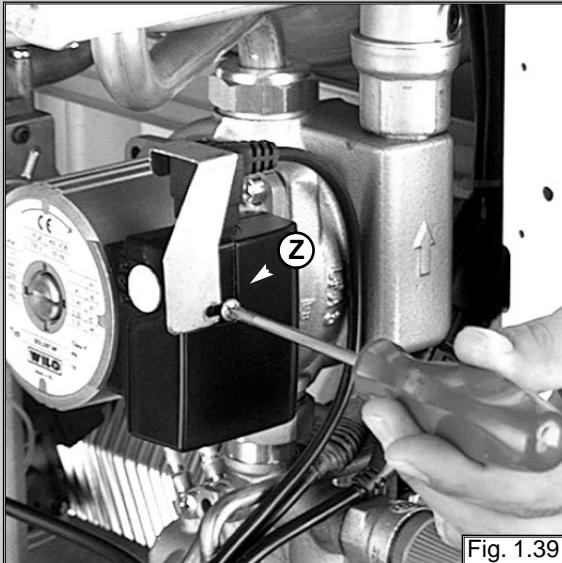

Fig. 1.39
- 1.** Unscrew "Z" and remove the electrical connection (see fig. 1.39);